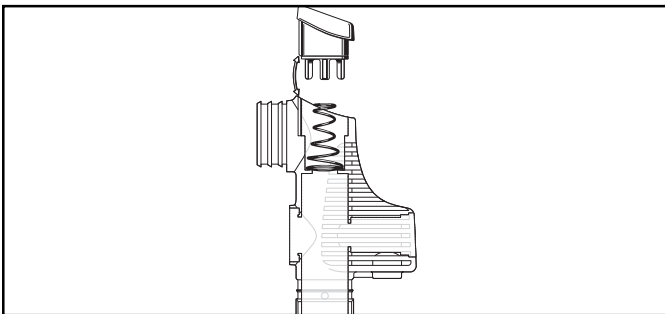

Figure 4
1.3.5 Place the oral inflator button directly over the spring, and rotate the button as needed to align the indexing tab with the center groove of the body (see Fig. 4). Depress the oral inflator button, and hold it fully depressed while turning the body over so that the barrel faces up.